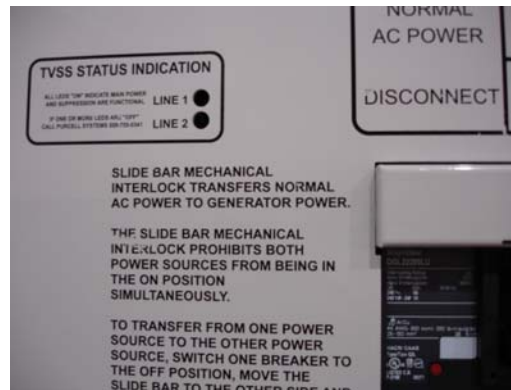

Figure 15 – TVSS LEDs next to the MTS
- 3.2 The TVSS LEDs are located to the left of the MTS (See Figure 15).